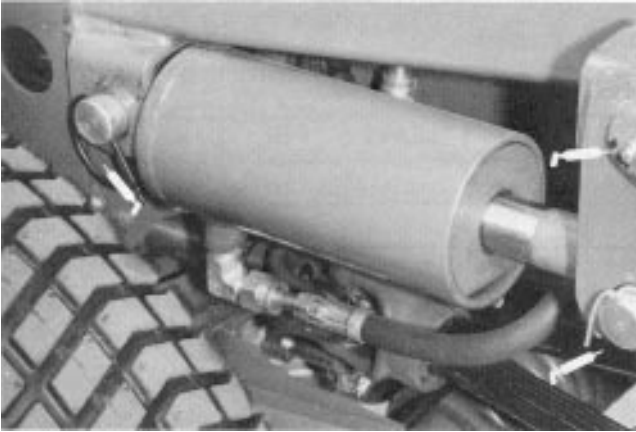
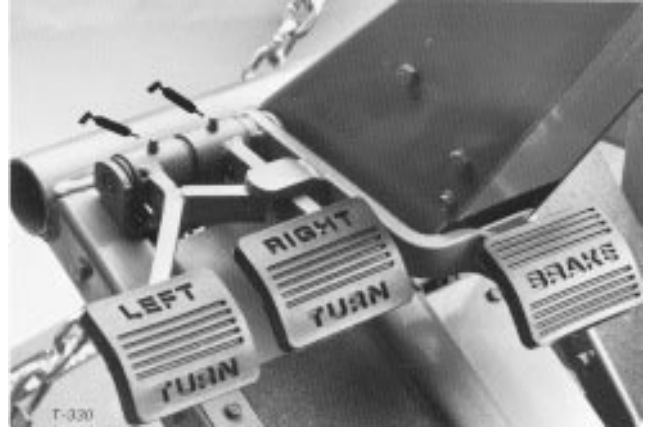
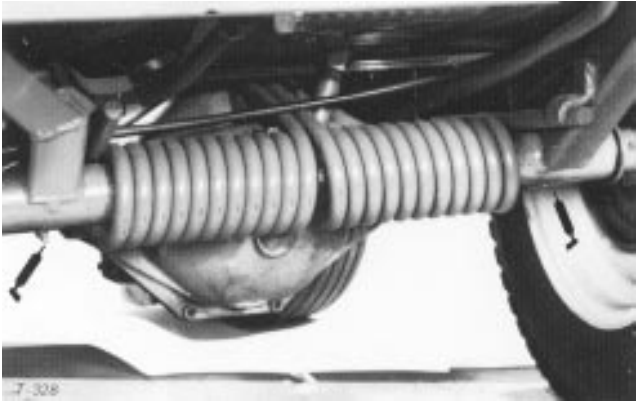
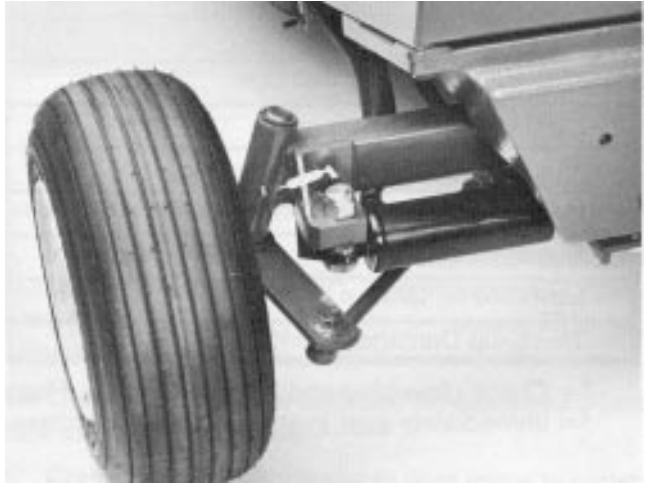

Figure 31
Figure 34
Figure 32
Figure 35
1. The traction unit bearings and bushings that must be lubricated are: PTO shaft and yokes (Fig. 30); lift arm pivots (Fig. 31); right and left push arm ball joints (Fig. 30); push arm pivot bushings (Fig. 32); PTO pivot housing blocks (Fig. 33); brake pivot bushings (Fig. 34); rear wheel spindle bushings (Fig. 35,36); steering plate bushings (Fig. 36); axle pin bushing